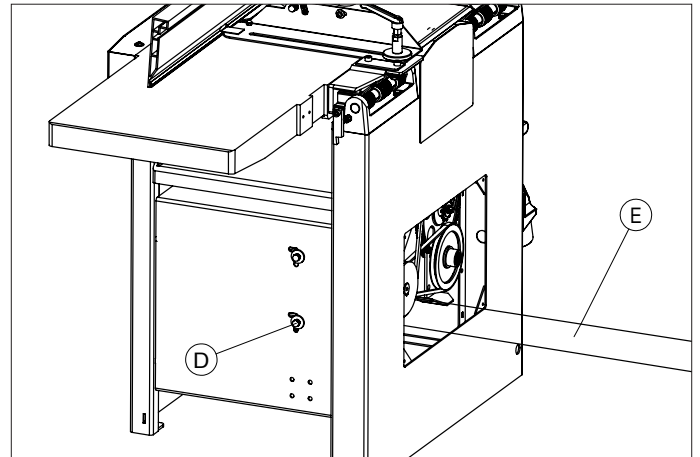

FIG.22
5. From outside the machine, loosen the four nuts (D, Fig.22) – using stick (E, Fig.22) to increase the motor, the cutterblock drive belt will be slackened.
6. To tension the cutterblock drive belt, push the motor downward. When belt tension is correct tighten motor mounting nuts (D, Fig.22).